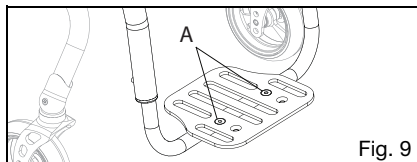

Fig. 9
- Use a 4mm Allen wrench to loosen the two screws (Fig. 9:A) that secure the footplate to the footplate clamp. Do not remove the screws from the footplate. Once loose, the footplate will easily rotate around the footrest extension tube.
- Select the desired position and retighten the two M6 screws (Fig. 9:A) to 80 in./lbs (9.04 N*m).